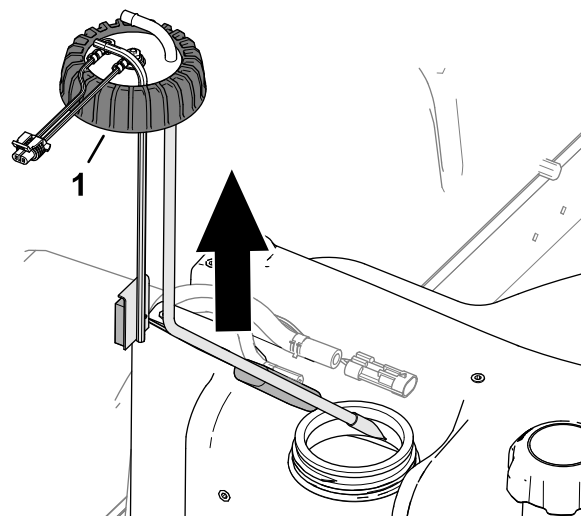

Figure 90
5. Loosen the fuel-sender cap (Figure 90).